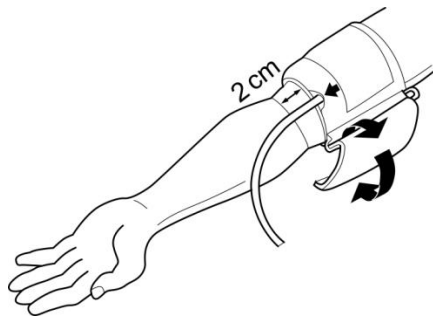

Fig. 7: Correct position of cuff
- 4) Position the cuff correctly (Fig. 7):